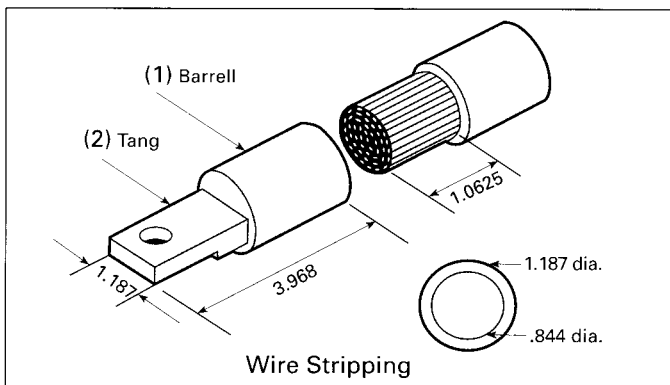

Figure 1
- D. Preform cables to final configuration and strip insulation back 1-1/16" on each conductor. Use an appropriate insulation stripping tool to avoid damaging the conductor. (See Figure 1.)
- F. Remove cap from compression connector and insert cable fully into barrel (1) (Figure 1) of connector.
- G. Insure that connector tang(s) (2) (Figure 1) are in their proper orientation prior to crimping. This helps avoid twisting of cables during installation.